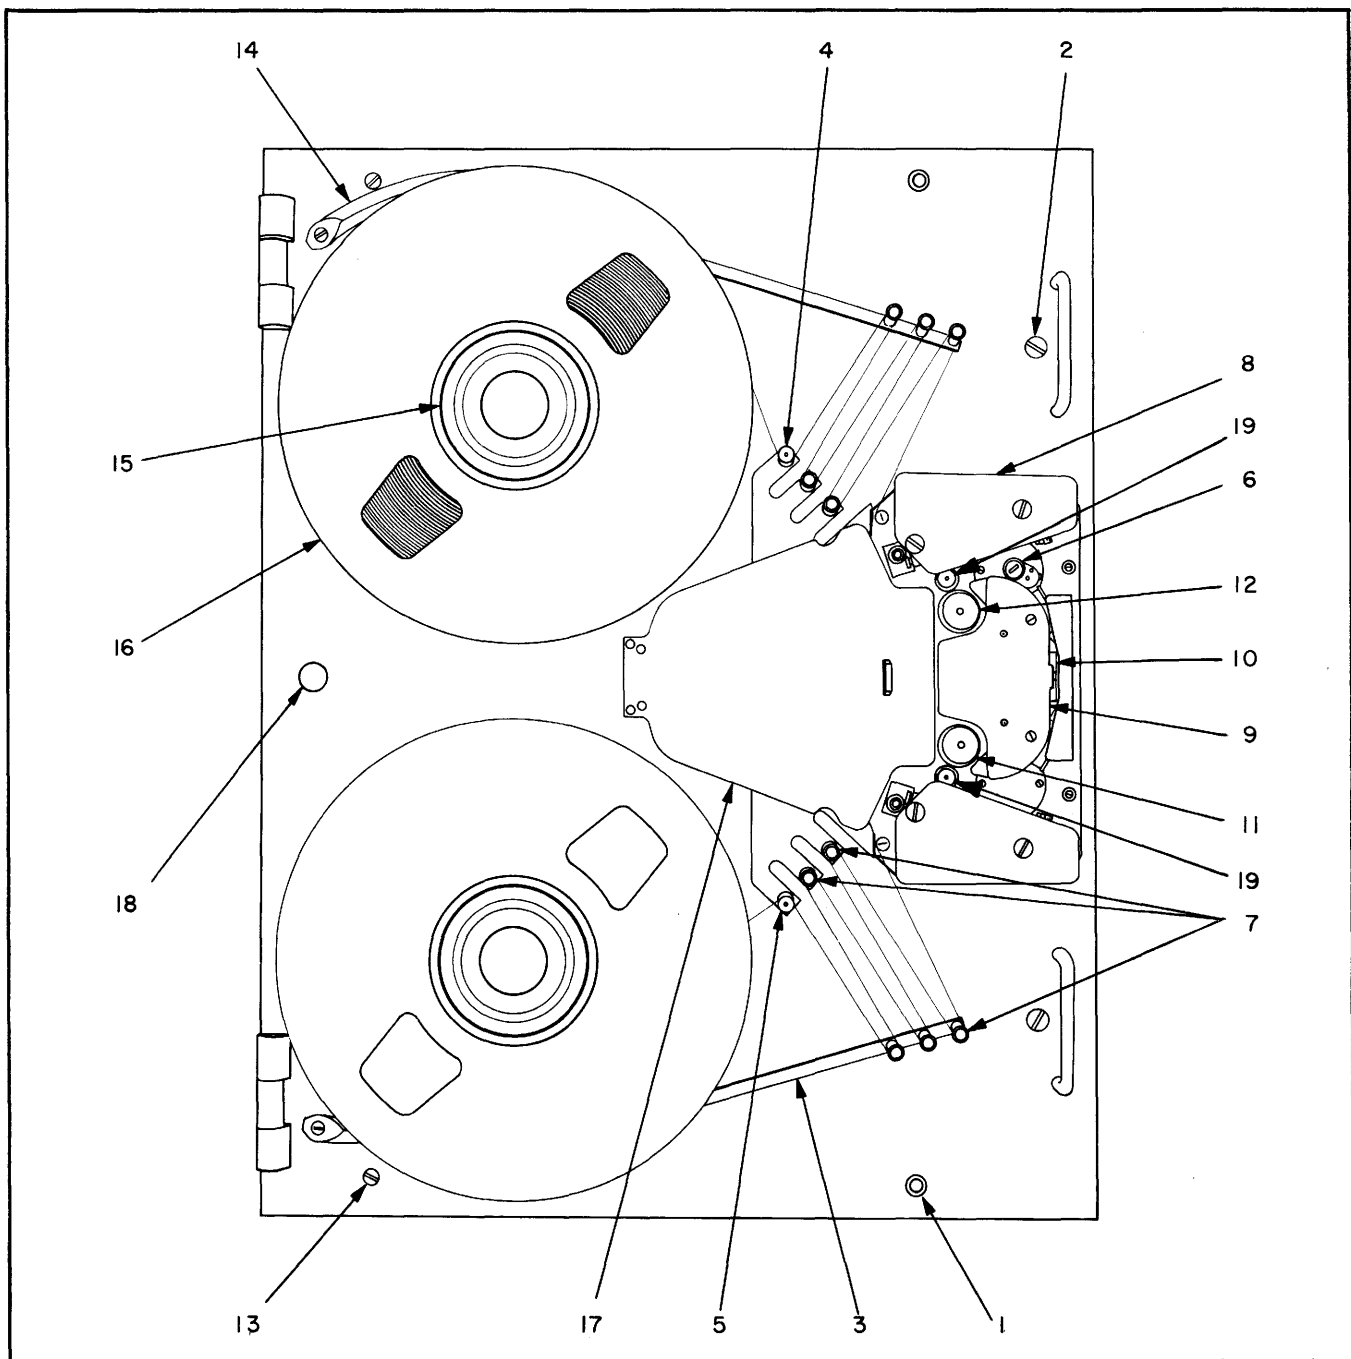
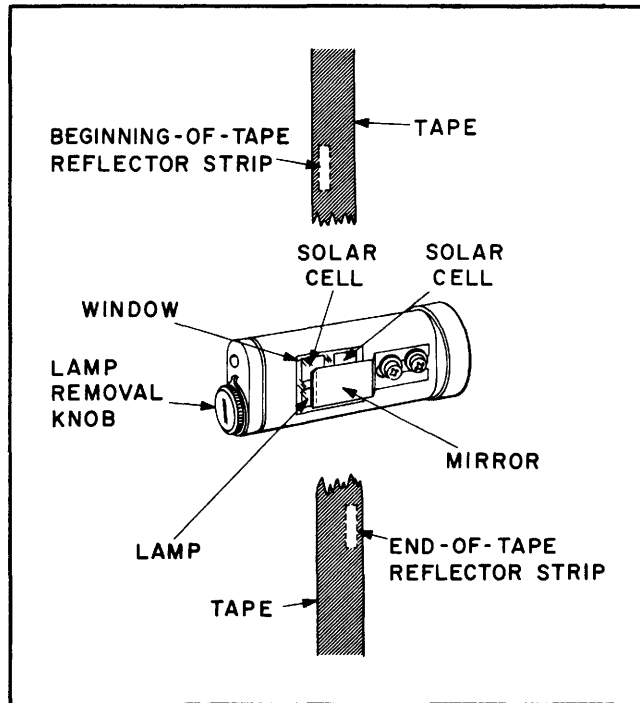

Figure 1-3. MT-120 Front Panel Components
Figure 1-4. EOT/BOT Assembly
These functions are discussed in the following paragraphs. The transport is illustrated in figure 1-3. Table 1-2 lists the references cited in figure 1-3 and their functions.
1-4-1. TAPE STORAGE AND SUPPLY. (Reference figure 1-3.) Tape storage is provided in two areas on the tape transport. Primary tape storage is on two hub mounted reels (16) which supply and take-up the magnetic tape. A secondary tape storage area is created by the length of tape threaded around two tension arms (3). A vacuum buffer (17) located on the drive plate assembly, isolates the tape in the storage area from the tape in the drive system. A retraction motor positions the tension arms to facilitate tape loading. The motor is energized by pressing the retraction button (18) on the transport panel. Power for driving tape reels is provided by a pair of series wound split field, servo motors.
1-4-2. **TAPE DRIVE AND GUIDING.** (Reference figure 1-3). The tape drive and guiding components are responsible for the movement, stoppage and guidance of tape within the system. Tape is driven by one of two capstans which are belt coupled to a hysteresis synchronous capstan drive motor. The tape is threaded between each capstan (11) and (12), and associated pinch roller on the drive assemblies. Since both capstans are rotating when the unit is in operation, tape movement is initiated when a pinch roller presses the tape against one of the rotating capstans. The direction of tape movement is dependent upon which pinch roller is actuated. A pair of troughs guide the tape as it passes over the read/write head (9). Drag pads located at each trough guide provide drag to keep tape taut while it is passing over the read/write head. This added drag aids in bringing the tape to a rapid halt when the driving pinch roller is released.
1-4-3. **READ/WRITE HEAD.** (Reference figure 1-3). A major component of the transport is the read/write head (9) which is used to write information on, or read information from, a magnetic tape. Head connectors for the read/write head are mounted at the rear of the tape transport panel.
1-4-4. **TAPE CONDITION SENSING.** (Reference figure 1-3). Provisions for sensing tape breakage and tape load conditions are incorporated within the tension arm assembly of the tape transport.
1-4-4-3. When an end-of-tape or beginning-of-tape condition is sensed, an indication is given and the pinch roller may be released automatically by connecting this signal to the pinch roller drive circuit. The EOT/BOT sensor is shown in figure 1-3, item (6). Sensing may be done photoelectrically or mechanically. When photoelectric sensing is used, the sensor or detecting device is a photocell and a light source. See figure 1-4.
The photocell is excited when a reflective strip located on the tape passes under the light source. Mechanical sensing is accomplished by utilizing a split post in place of one of the tape guide posts or rollers (4) and (5), figure 1-3. Metallic tape leaders are fastened to the ends of the tape for BOT and EOT sensing. When the leader reaches the split post, the two sections of the post are short circuited to provide a sensing signal.
f. The dowel is in place when its groove is in line with setscrew (5). Tighten setscrews.
h. Swing tape transport panel against rack and secure panel to rack with locking screws shown in figure 1-3, item (2).